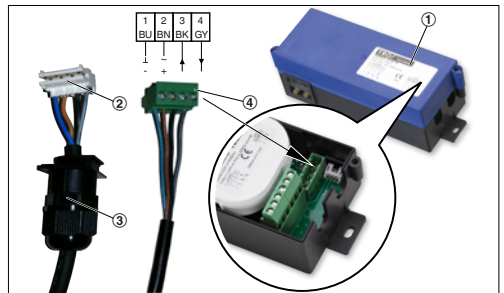

Fig. 5: GUAC-D3
2. ▶ Open the cover of the GUAC controller (Fig. 4 or Fig. 5/1) and pull out the connecting cable plug of the defective actuator.
- ▶ Remove the plug (Fig. 5/4) from the defective actuator.
- ▶ Take the new actuator, cut off the plug (Fig. 5/2) and remove the cable gland (Fig. 5/3).
Fit the now bare wire ends of the new actuator's connecting cable with wire end ferrules, then fix the wires to the plug (Fig. 5/4). Terminal connections: 1 = blue, 2 = brown, 3 = black, 4 = grey
4. ▶ Fix the cover (Fig. 5/1).